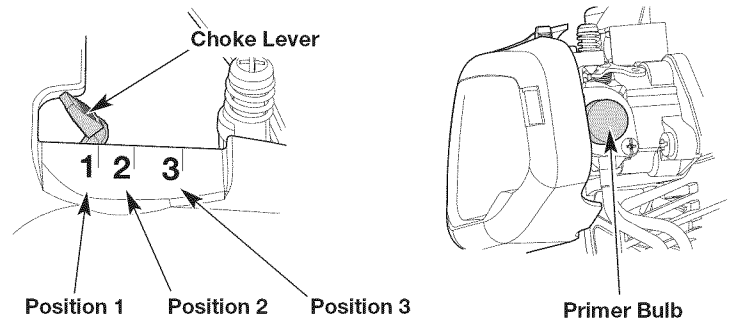

Fig. 8
3. Slowly press and release the primer bulb **10 times** (Fig. 8). If fuel cannot be seen in the primer bulb, press and release the primer bulb until fuel is visible.
4. Move the choke lever to **Position 1** (Fig. 8).
7. Continue to squeeze the throttle control. Move the choke lever to **Position 2** (Fig. 8).
10. Continue to squeeze the throttle control. Move the choke lever to **Position 3** (Fig. 8) and continue warming the engine for an additional 60 seconds. The unit may be used during this time.
IF... the engine hesitates, return the choke lever to **Position 2** (Fig. 8) and continue the warm-up.
8. Continue to squeeze the throttle control. Move the choke lever to **Position 2** (Fig. 8).
12. Continue to squeeze the throttle control. Move the choke lever to **Position 3** (Fig. 8) and continue warming the engine for an additional 60 seconds. The unit may be used during this time.